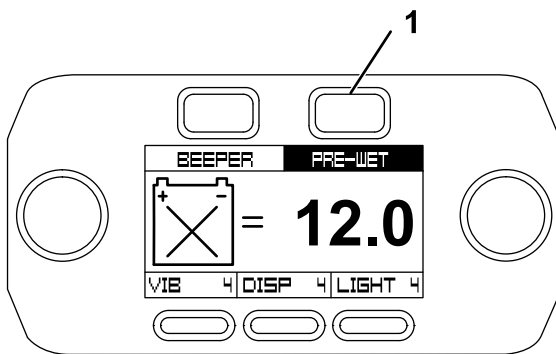

Figure 47
2. Press the Pre-Wet button (Figure 47).